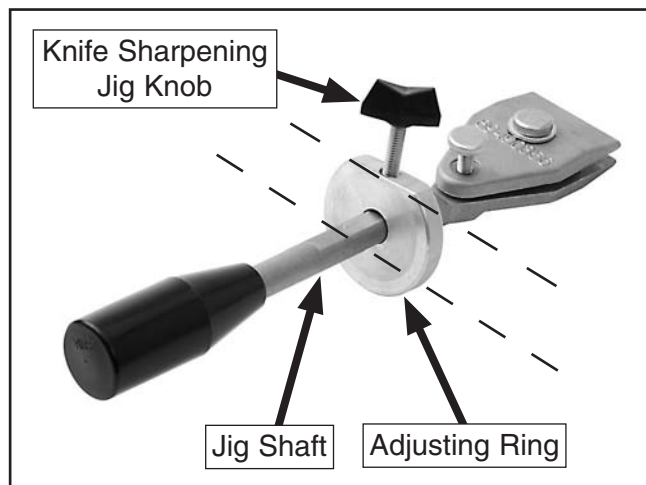

Figure 3. Knife jig assembly.
1. Rotate the adjusting ring on the both jig shafts so that the flat portions are aligned (**Figure 3**).